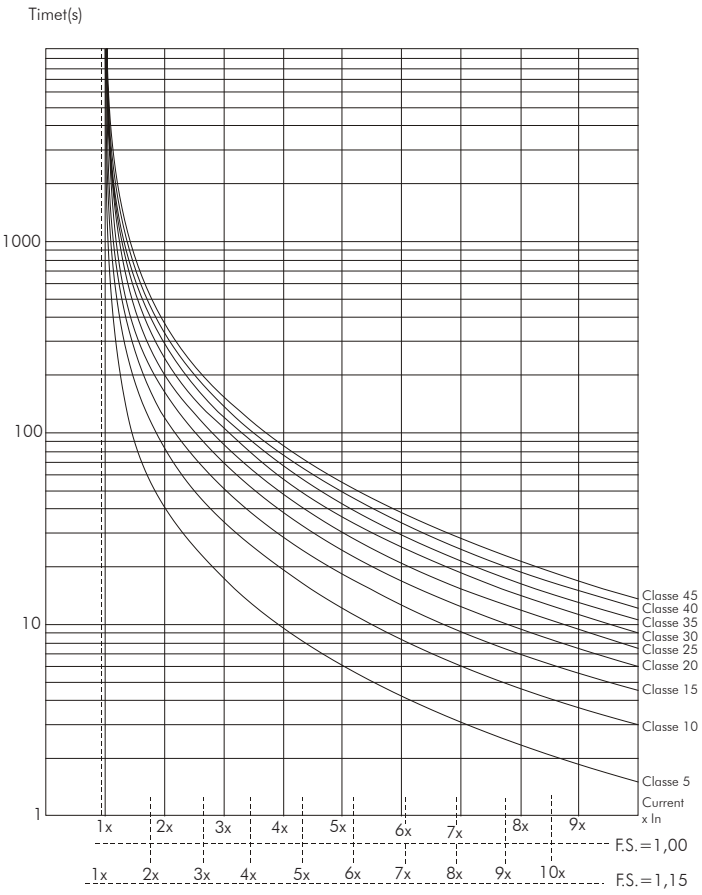

Figure 5.26 - Tripping classes for cold motor protection
The figure 5.26 presents all the tripping class curves considering service factors (S.F.) of 1.00 and 1.15.
Use the data found in the previous example ( $6 \times I_n$ ) and the 6 s time (figure 5.26) in order to find the minimum tripping class necessary to start the cold motor, as described at the parameter 640.
1) At the figure 5.26 we verify the minimum tripping class that will make the starting possible. For  $4 \times I_n @ 25 \text{ s}$  we adopt the closest curve above the found point: Class 15.